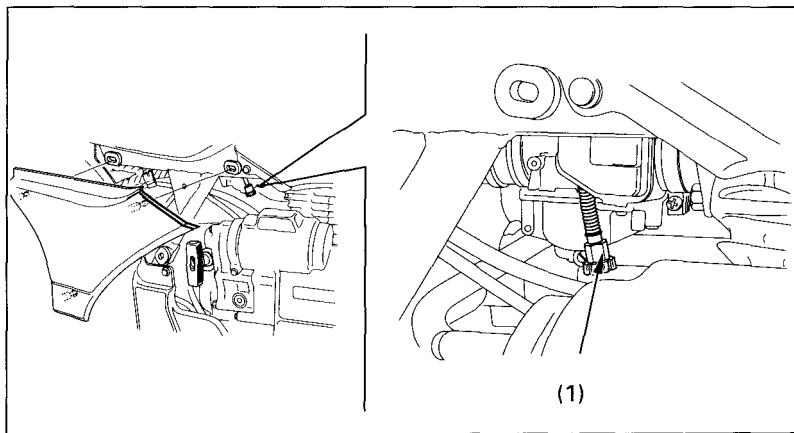

Fig. 4-9 (1) Throttle stop screw
Before adjusting the idle speed and air-fuel mixture, unsnap the right side cover. (Fig. 4-9)
2. Adjust idle speed by turning the throttle stop screw (Fig. 4-9).